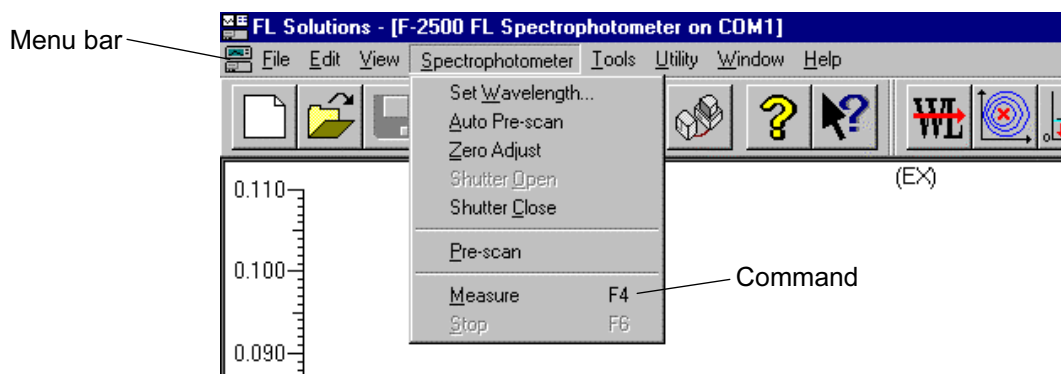

Fig. 1-11 Menu Bar and Command
In the case shown in Fig. 1-11, an expression of “Scan (S) command of Spectrophotometer (S) menu” is used.